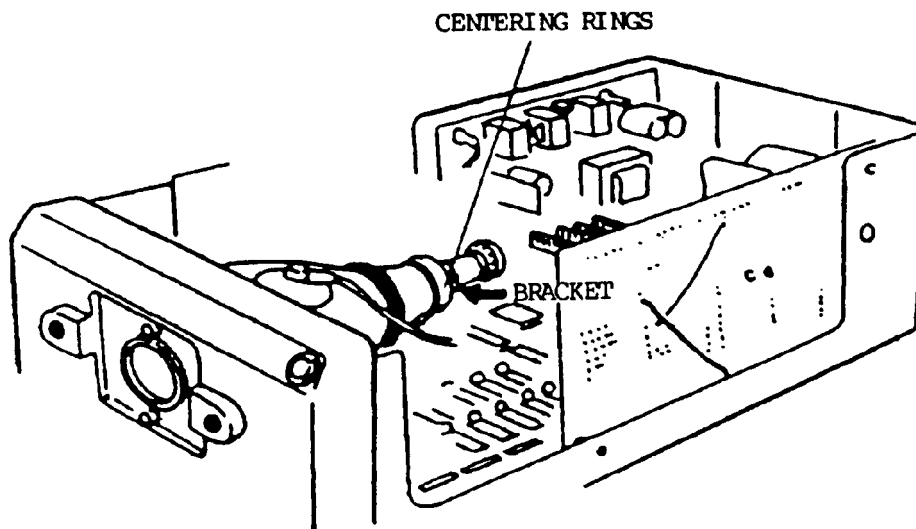

**Figure 4-3 Adjustment locations**
3. Adjust R46 Luma Adjustment (Figure 4-3) to a level that is easily visible to the eye — approximately 6 f-l or 3mV.
1. Adjust R7 on the Monitor Board to fine-tune horizontal centering (see Figure 4-3).
2. Adjust R27 on the Monitor Board to fine-tune vertical centering (Figure 4-3).
3. Adjust R48 on the Monitor Board to obtain proper vertical height (Figure 4-3).
4. If the cross hairs do not coincide with the gauge, return the Vertical Centering pot (R27 in Figure 4-3) and Horizontal Centering pot (R7) to their nominal (center) positions.
7. Adjust R7 on the Monitor Board to fine-tune horizontal centering (see Figure 4-3).
8. Adjust R27 on the Monitor Board to fine-tune vertical centering (Figure 4-3).
9. Adjust R48 on the Monitor Board to obtain proper vertical height (Figure 4-3).
10. Adjust R14 to obtain proper horizontal width (Figure 4-3).
11. Adjust L11 to obtain proper horizontal linearity (Figure 4-3).
8. Adjust the brightness to 6.0 f-l on the photometer (or 3.0mV), using Luma Adjust pot R46 (Figure 4-3).
3. When the image is the sharpest, adjust R36 Focus (Figure 4-3) for optimal focus.